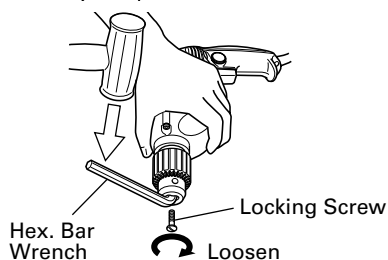

Fig. 8
(1) Removing chuck from drill (Fig. 8)